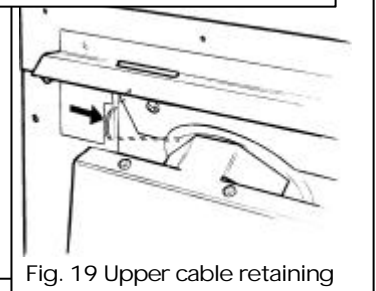

Fig. 19 Upper cable retaining
7.2.4 The convection box has two holes at each side of the convected air opening. Insert one end of each cable (one cable each side) from the back through the lower of the two holes and return the end through the upper of the holes (see figure 19). Give the cables a pull so that they grip against the convection box flanges.